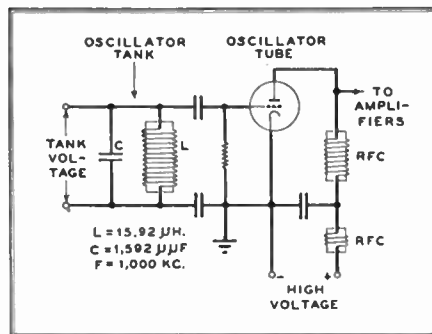
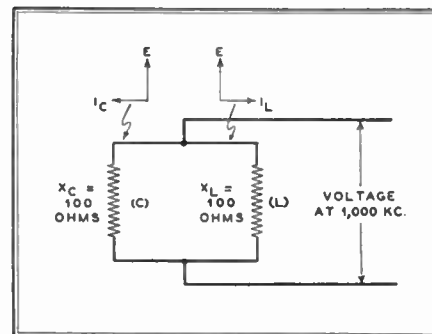

FIG. 32. CIRCUIT OF CONVENTIONAL UNMODULATED OSCILLATOR
FIG. 33. REACTANCE RELATIONS OF CIRCUIT SHOWN IN FIG. 32
Consider now the oscillator circuit of Fig. 32. The inductance of the tank coil in this particular case is 15.92 microhenrys (.00001592 henry) and the tank capacity is 1.592 micromicrofarads (.00000001592 farad). By the use of equations (1), (2), and (5), it is found that the resonant frequency of the tank is 1,000 kc., and that the values of capacitive and inductive reactance offered by the tank coil and condenser are 100 ohms each, as noted in Fig. 33.
current in the inductive branch will be equal to the current in the capacitive branch of the tank. However, the current in the capacitive branch will lead the voltage by 90° while that in the inductive branch will lag by 90°, as shown by the small vector diagrams in Fig. 33.